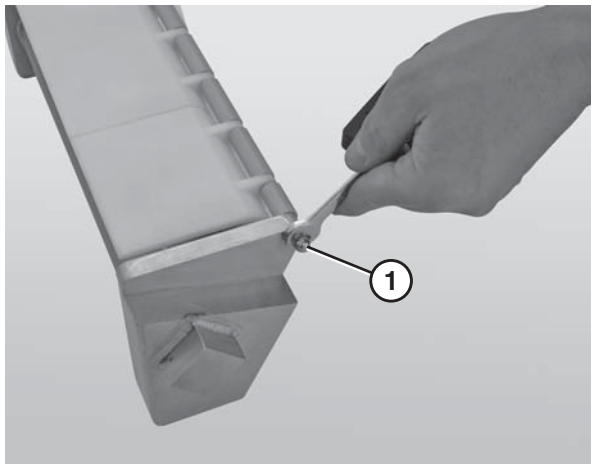

Figure 66
4. Use a 10 mm wrench to remove one of the acorn nuts (Figure 66, item 1) from the nose bar shaft.